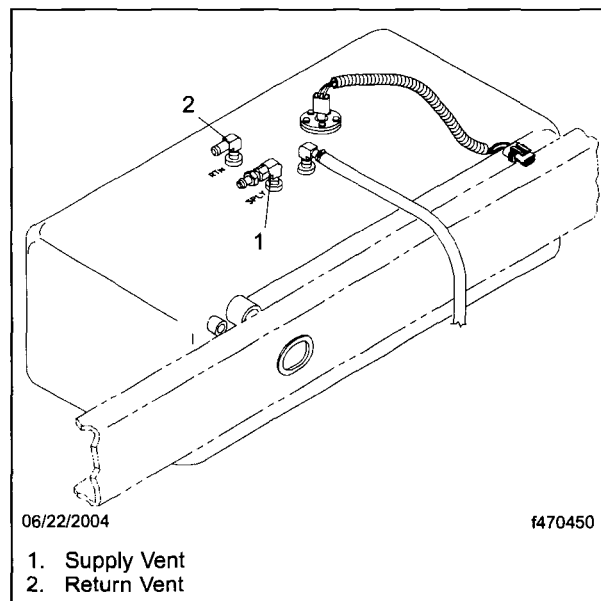

Fig. 2, New Fittings
5. Install the new vent fittings and fuel level sending unit on the new tank. See **Fig. 2**.